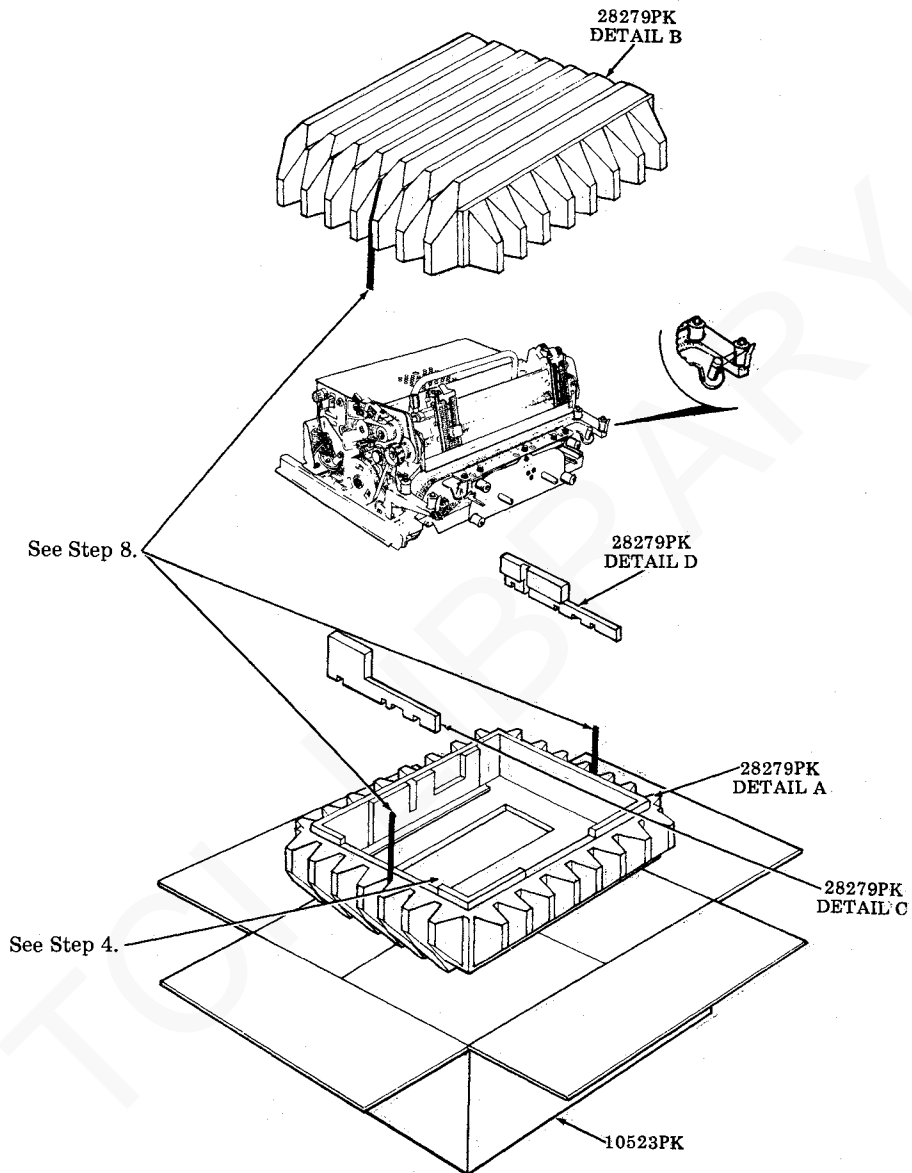

Fig. 16
- Step 3.** Set unit upright, secure each of the two ribbon tensioning arms in latched position with 50136PK twist ties as illustrated in Fig. 16.
- Step 4.** Place a plastic base (28279PK Detail A) on work bench as illustrated in Fig. 16. Place printer in base.
- Step 5.** Position a 28279PK Detail C along the side of mounting rail at left side of printer and a 28279PK Detail D along the side of the mounting rail at right side of printer. See Fig. 16.
- Step 6.** Position a plastic cover (28279PK Detail B) over printer as illustrated in Fig. 16.
- Step 7.** Secure details A and B together by applying a band of 21632PK tape around the details as shown in Fig. 16.